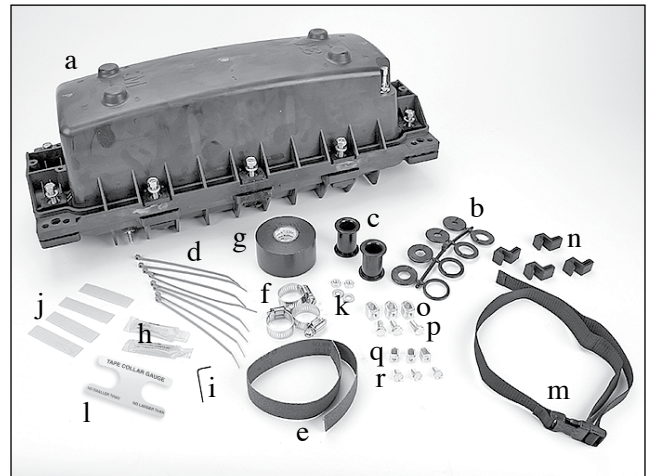

Figure 2
4.2 3M™ Fiber Optic Splice Closure 2178-LS and 2178-LS/FR Kit Contents (Figure 2):